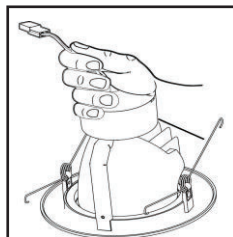

Figure 5
DO NOT LET THE MODULE HANG UNSUPPORTED BY THE ORANGE CONNECTORS. (Figure 5)
4. Plug orange connector from the module into the mating orange connector just installed into the recessed can. Push the wires and mated connectors up into the recessed can. **DO NOT LET THE MODULE HANG UNSUPPORTED BY THE ORANGE CONNECTORS.** (See Figure 5)